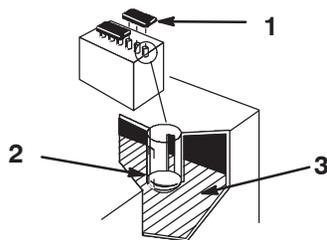

Figure 64
1. Open covers to see into the cells. The electrolyte must be up to the lower part of the tube (Fig. 64).
Important Do not allow the electrolyte to get below the plates. (Fig. 64).
2. Lift off the filler caps (Fig. 64).
3. Slowly pour distilled water into each battery cell until the level is up to the lower part of the tube (Fig. 64).